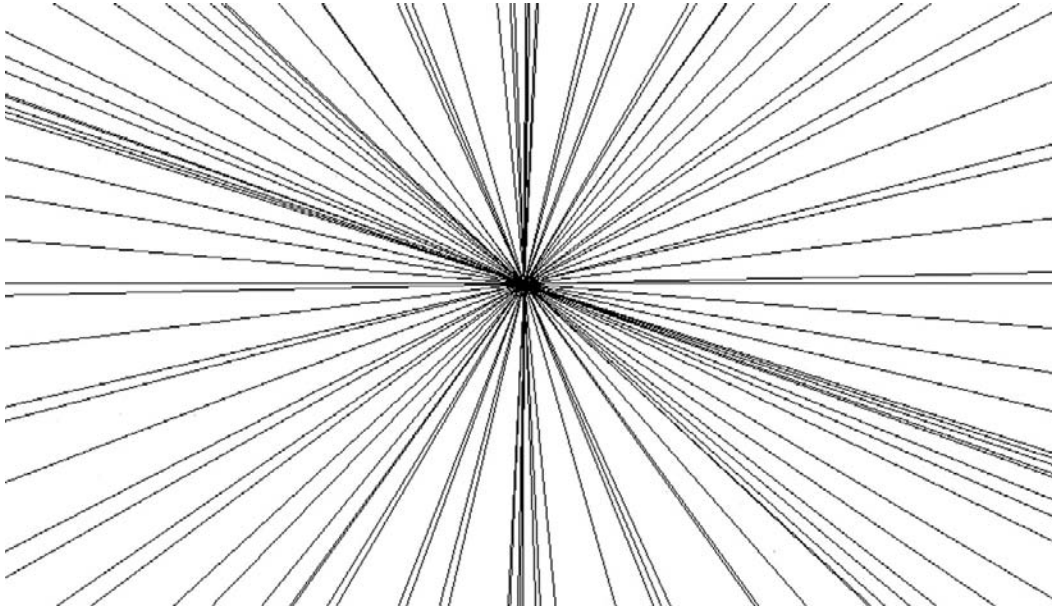
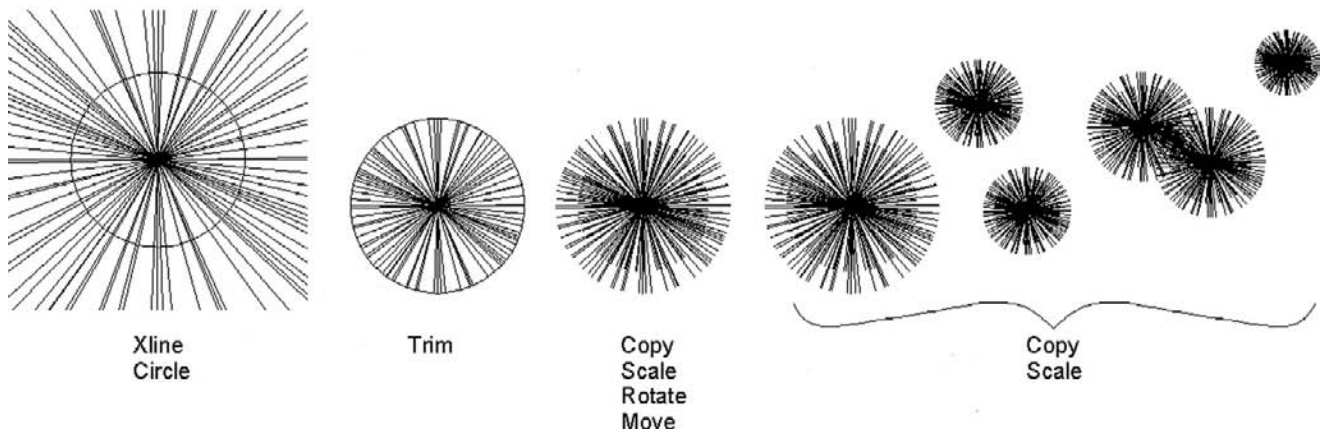

FIGURE 11.11
FIGURE 11.12
Step 3. Click randomly anywhere along the screen and multiple xlines appear. Figure 11.11 shows one result of clicking in a circular manner.
Figure 11.11 is perhaps not the most useful of creations, but landscape designers may find some use for the result of placing a circle at the intersection of those lines and trimming. Then, via some creative scaling, rotating, and copying, you get the reasonable representation of trees or shrubs in Figure 11.12.